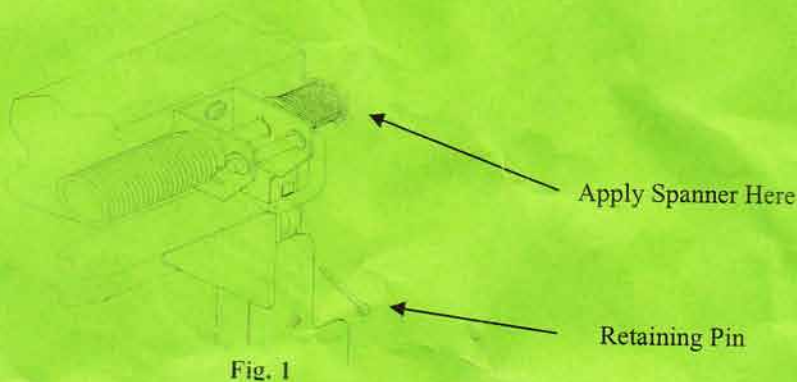

Fig. 1
2. Hold the R/H pulley with spanner and by turning upwards, align holes in spring anchor bush and spring shaft. Insert retaining pin fully into hole (see Fig 1), and remove spanner.